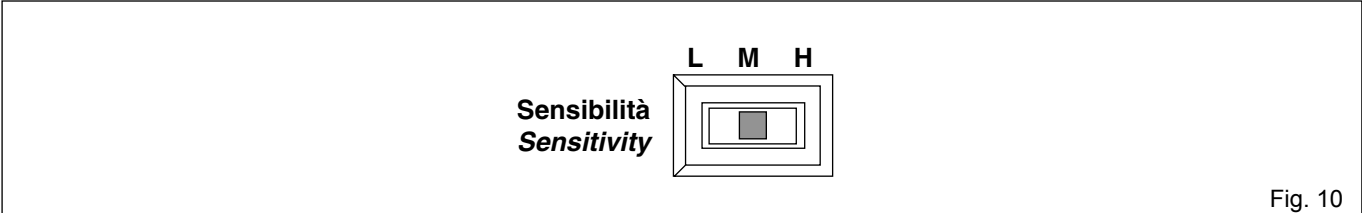

Fig. 10
4.6 (Fig. 10) Sensitivity adjustment: